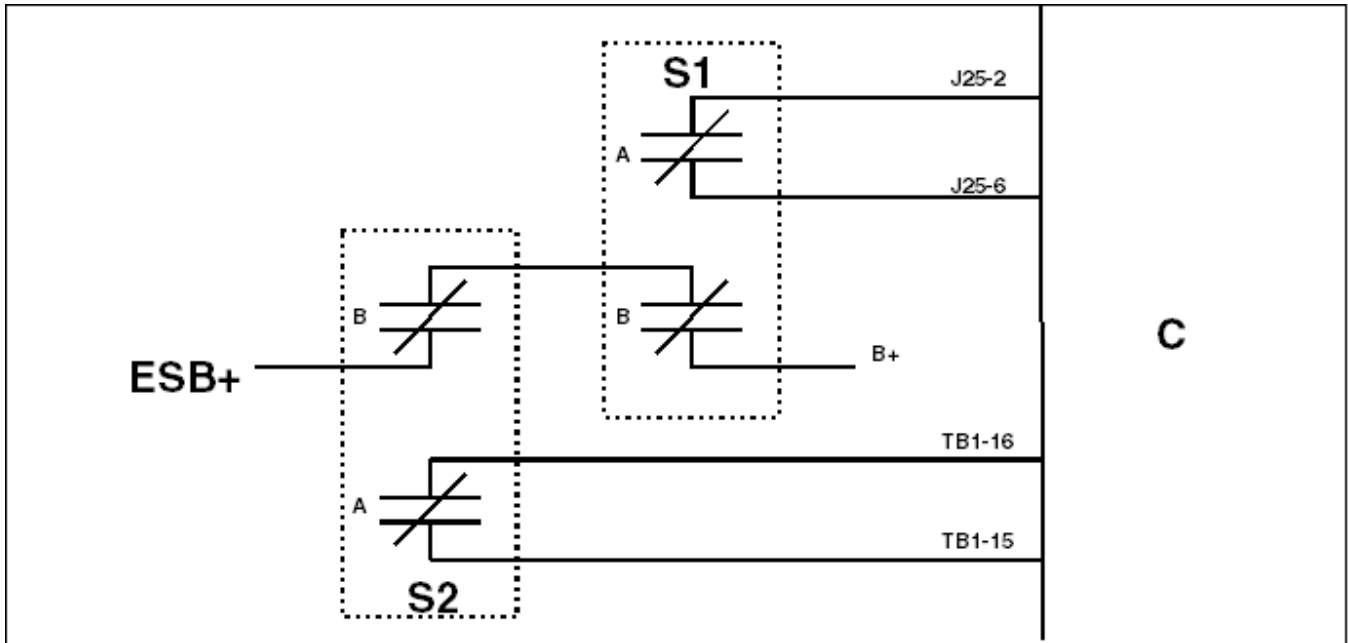

FIGURE 82. EMERGENCY STOP BUTTON WIRING DIAGRAM
- Figure 82. Emergency Stop Button Wiring Diagram 456